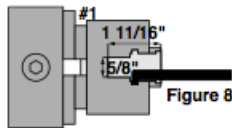

Figure 8
24. See Fig 8. Using recess cutter, cut recess rubbing cutter at depth of 7/8" hole.